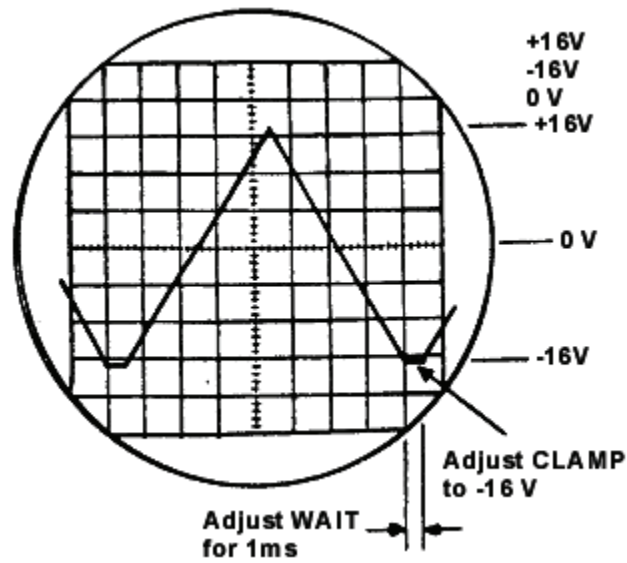

Figure 8. Sweep ramp.
- (5) Set **SWEEP TIME SEC** to **LINE**.
- (6) If signal is not clamped at -16 V (fig. 8), adjust M1H **CLAMP** (fig. 3) (R).
(7) While observing waveshape in figure 8, adjust **WAIT ADJ** (fig. 3) for a wait time of 1 ms (R).